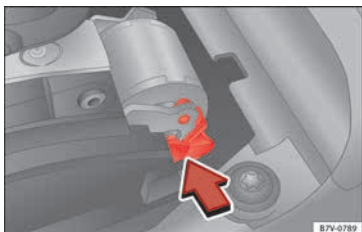

Fig. 51 Manual release of gear selector lever
- Press the release lever»» Fig. 51 in the direction of the arrow and hold it in this position.